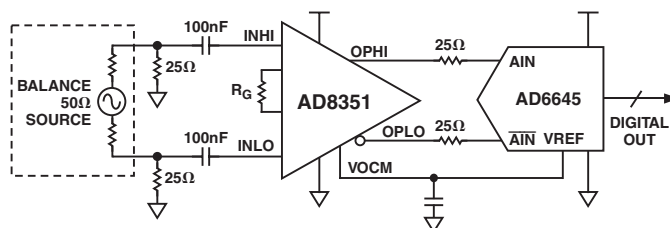

Figure 7. ADC Driving Application Using Differential Input
The circuit in Figure 7 represents a simplified front end of the AD8351 driving the AD6645, which is a 14-bit, 105 MSPS A/D converter. For optimum performance, the AD6645 and the AD8351 are driven differentially. The resistors R1 and R2 present a 50 Ω differential input impedance to the source with R3 and R4 providing isolation from the A/D input. The gain setting resistor for the AD8351 is R_G . The AD6645 presents a 1 k Ω differential load to the AD8351 and requires a 2.2 V p-p differential signal between AIN and $\overline{\text{AIN}}$ for a full-scale output. This AD8351 circuit then provides the gain, isolation, and source matching for the AD6645. The AD8351 also provides a balanced input, not provided by the balun, to the AD6645, which is essential for second-order cancellation. The signal generator is bipolar, centered around ground. Connecting the VOCM pin (10) of the AD8351 to the VREF pin of the AD6645 sets the common-mode output voltage of the AD8351 at 2.4 V. This voltage is bypassed with a 0.1 μF capacitor. Increasing the gain of the AD8351 will increase the system noise and thus decrease the SNR but will not significantly affect the distortion. The circuit in Figure 7 can provide SFDR performance of better than -90 dBc with a 10 MHz input and -80 dBc with a 70 MHz input at a gain of 10 dB.